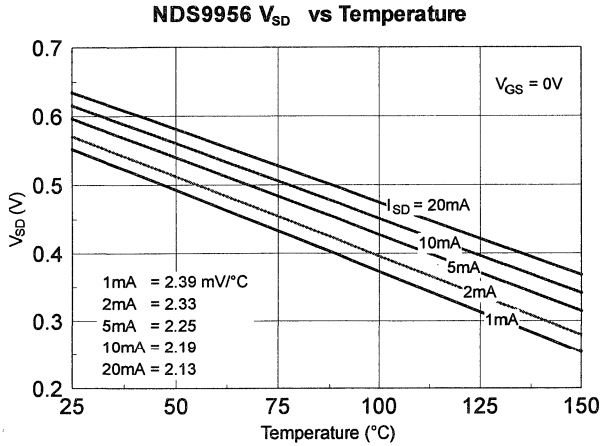

Figure 2. K factors, slopes of a V_{SD} vs temperature curves, of a typical Power MOSFET
Prior to any thermal measurement, a K factor must be determined. It is a linear factor related to the change of intrinsic diode voltage with respect to the change of junction temperature. From the slope of the curve shown in figure 2, K factor can be determined. It is approximately 2.2mV/°C for most Power MOSFET devices.
- Thermal Test Board with 16 layouts defined by the size of the copper mounting pad and their relative surface placement. For layouts with copper on the top and bottom planes, there are 0.02 inch copper plated vias (heat pipes) connecting the two planes. See figure 2 and table 1 on the thermal application note for board layout and description. The conductivity of the FR-4 PCB used is 0.29 W/m-C. The length is 5.00 inches \pm 0.005; width 4.50 inches \pm 0.005; and thickness 0.062 inches \pm 0.005. 2Oz copper clad PCB.